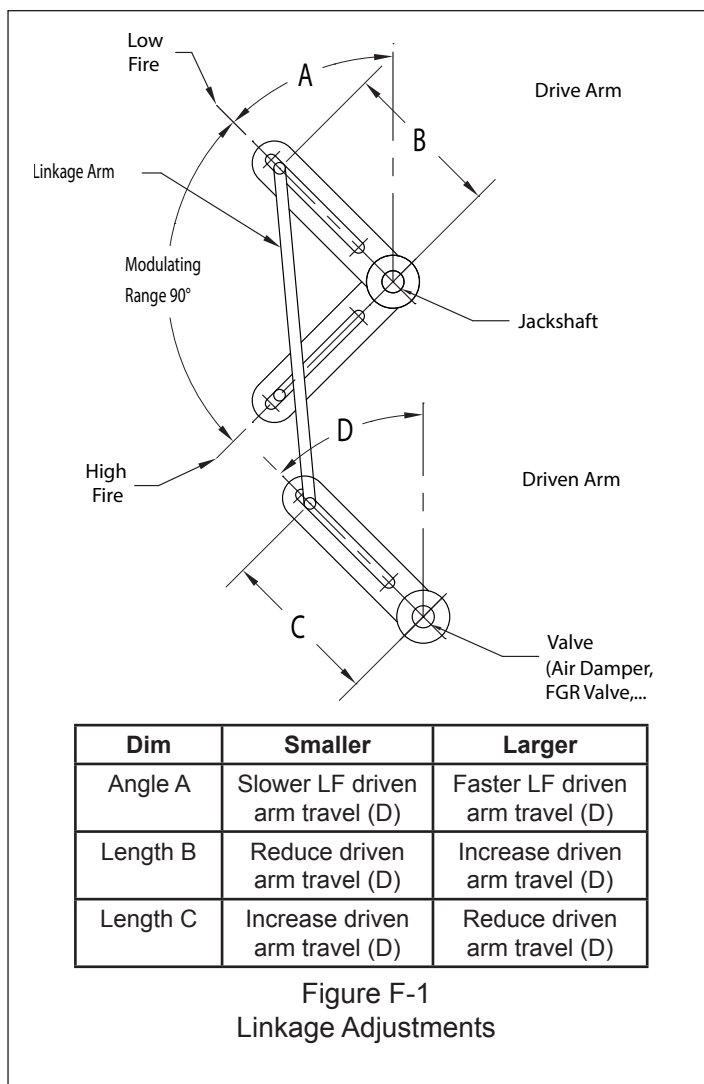

Figure F-1
- a. The linkage must provide the correct stroke of the valve, from low to high fire. Increasing the length of the drive crank arm (B) or decreasing the length of the driven crank arm (C) will increase the valve travel. To reduce valve travel, decrease B or increase C (Figure F-1).
g. If the contour has a sharp rise in the cam screw profile, trying to open the valve very quickly in the first few screws, the linkage should be readjusted to cause the air damper to open slower (make the jackshaft drive arm more parallel to the linkage rod). Likewise, the opposite contour can be corrected by speeding up the air damper drive (Figure F-1). The final cam screw profile should be close to the profile of the cam with no abrupt changes.